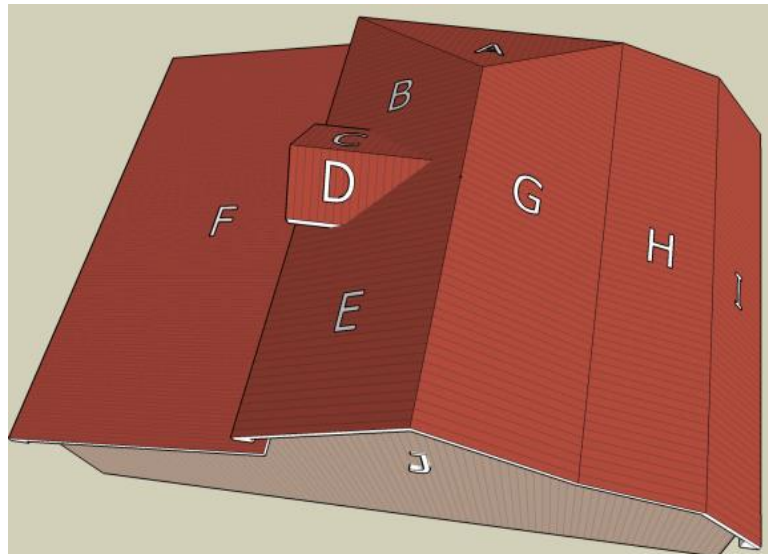

Figure 1
- At the very top of the roof, (Fig1) the line between sections **E** and **G** is called a **Ridge**.
Get complete measurements of your roof, including any perforations for vents, pipes, chimneys, etc. In Figure 1, for example, you would measure all sides of each section. Sections C, D, F, G, H and I would each have four measurements. You It may be tempting to measure only twice on these sections, but in many cases the underlying construction is not quite true enough to do this. For example, the left side of F might be longer or shorter than the right side of F. If so, it's better to know it at the beginning and order adequate materials than to order materials and come up short. Thorough measurements now will also alert you of the need to deal with these discrepancies as you apply the new roof. These differences in measurements may even be by design in some instances.